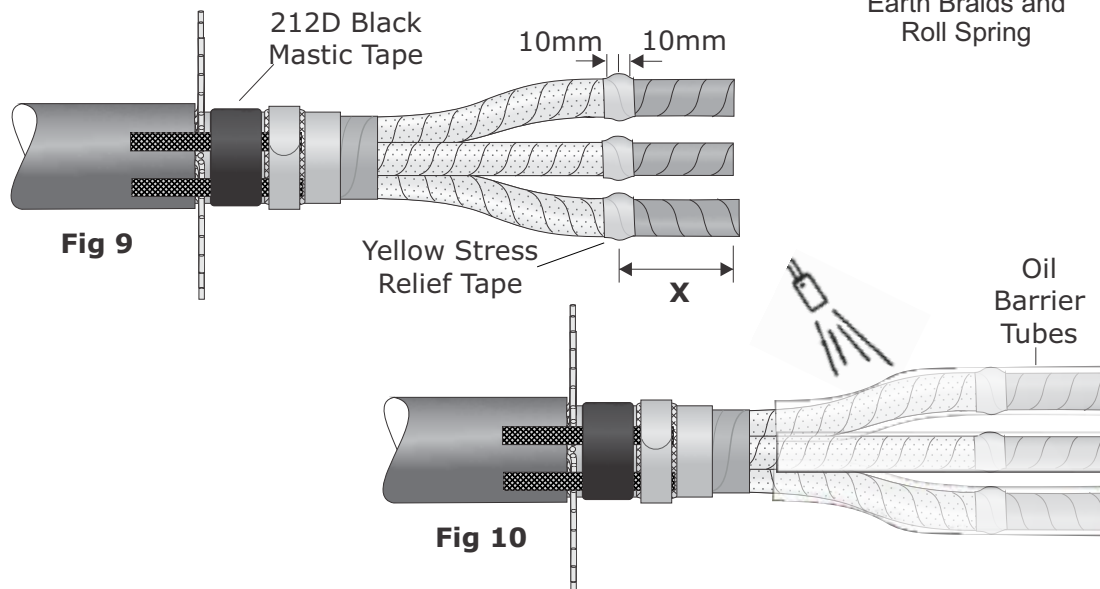

Fig 9
13. Carefully remove the metalised paper screens to dimension "X" as shown in Fig 9 and Table 1.
14. Stretch the yellow stress relief tape and apply over the end of the each screen by 10mm either side as shown in Fig 9.